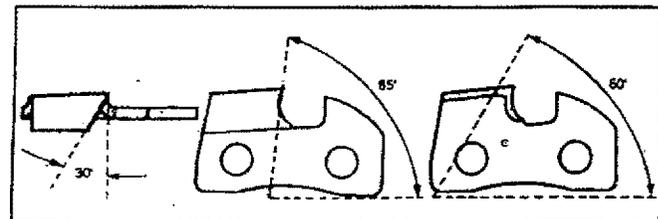

Figure 41
- f.) File 91SG chain to meet specifications shown in Figure 41.
Maintain the proper hook angle according to the manufacturer's specification for the chain you are using. Too much hook angle will increase the chance of kickback which can result in serious injury Figures 41 and 43.